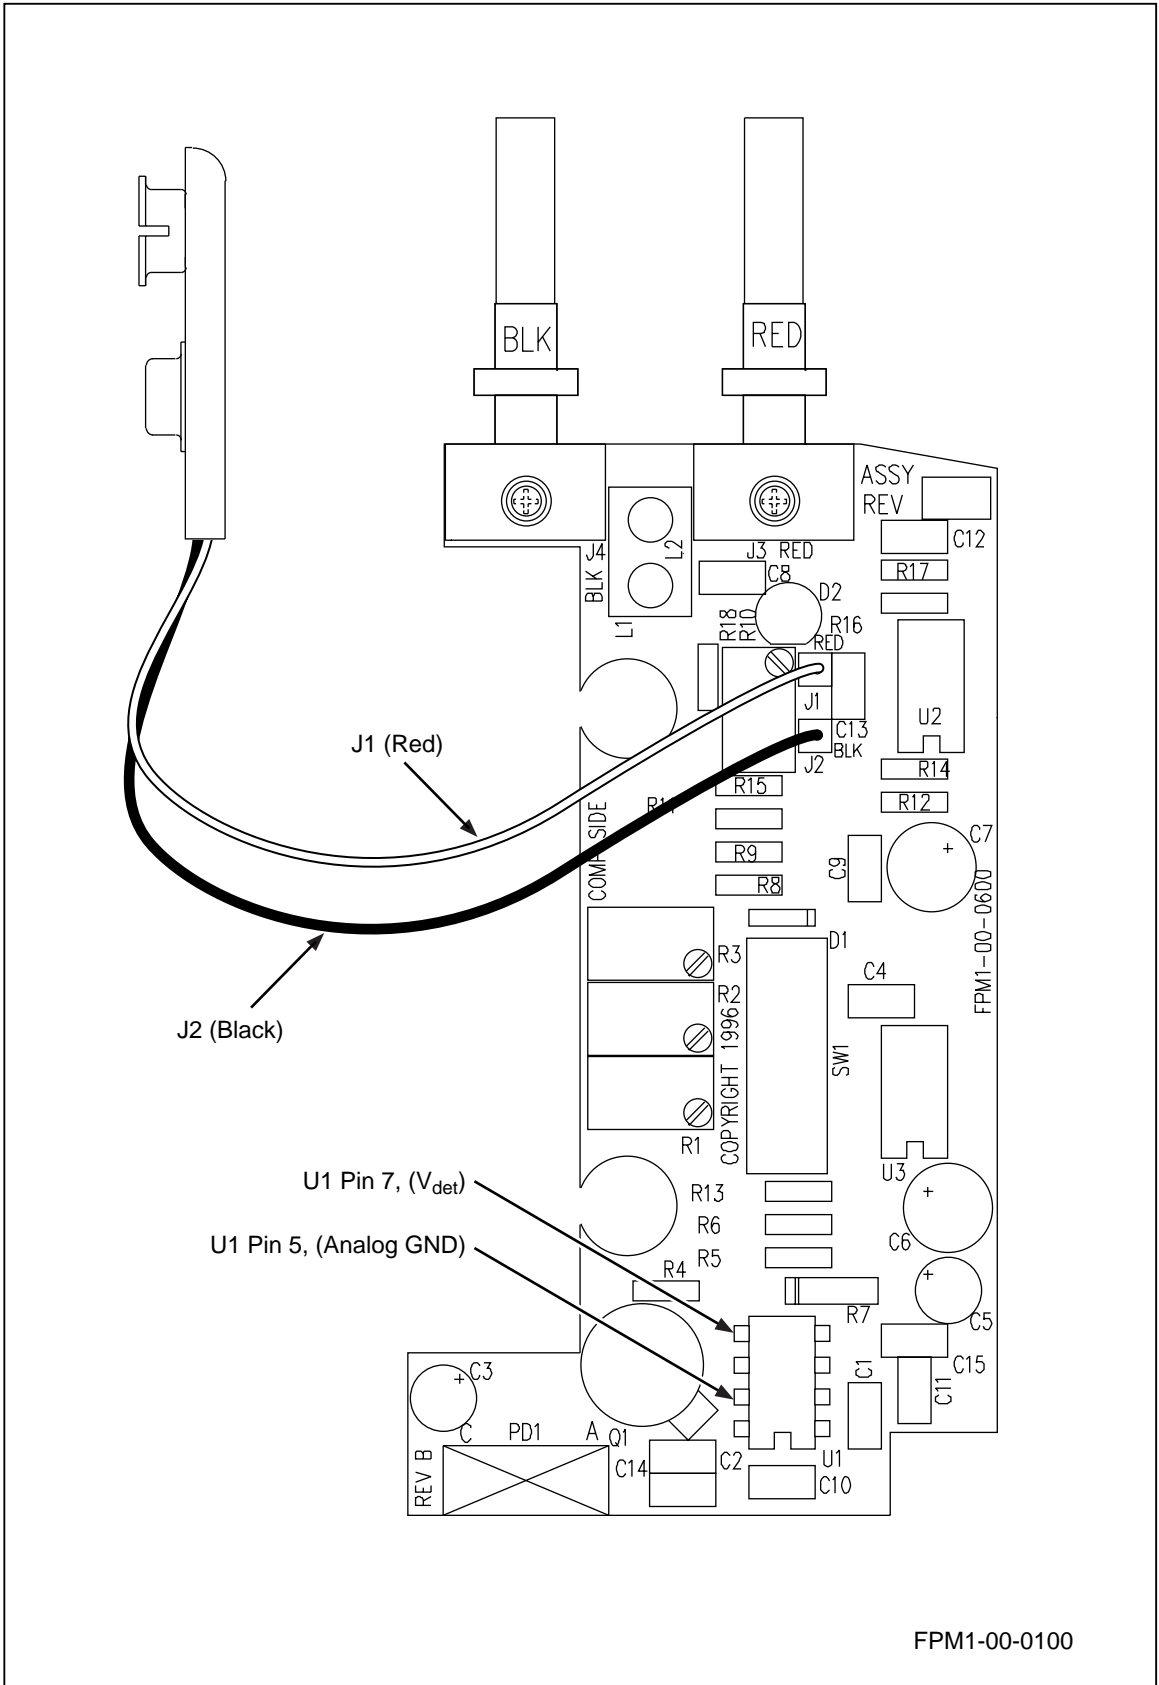

Figure 1. FOM Calibration Measurement and Adjustment Points
Refer to the FOM drawing (Figure 1) for the locations of measurements and components.
3. Measure  $V_{det}$  between U1 pin 7 and the analog ground reference at U1 pin 5 with the DMM. (See Figure 1.)